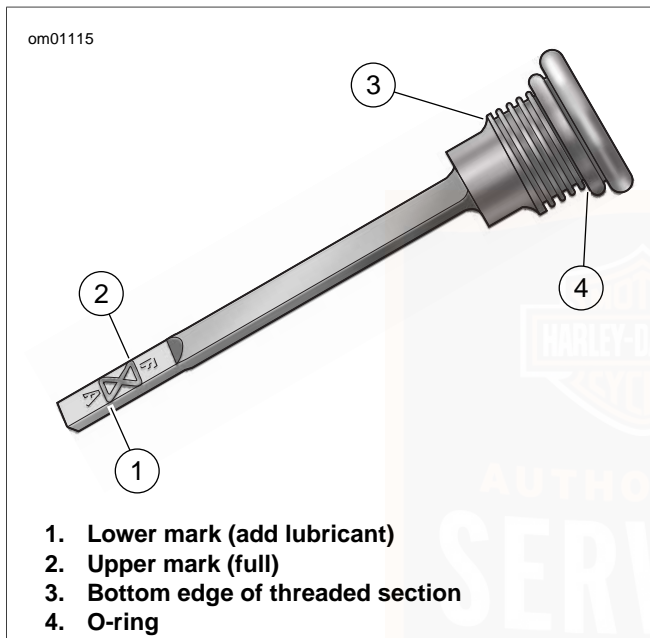

Figure 28. Transmission Filler Plug/Dipstick
4. See Figure 28. Remove filler plug and check lubricant level on dipstick. If necessary, add GENUINE Harley-Davidson FORMULA+ TRANSMISSION AND PRIMARY CHAINCASE LUBRICANT (Part No. 99851-05 quart) and recheck until level is between lower mark (1) and upper mark (2) on dipstick.